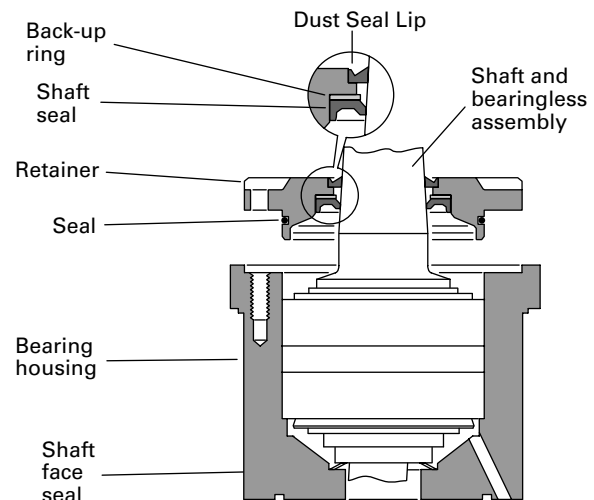

Figure 14
22. Use a small press, if available, to install dust seal in retainer. Metal side of dust seal must face toward retainer as shown in Figure 14. If a press isn't available, use a plastic or rubber hammer to tap dust seal in place.
23. Install 92,3 [3.64] I.D. seal, back-up ring and shaft seal in retainer. Flat or smooth side of shaft seal must face toward retainer as shown in Figure 14. Apply petroleum jelly to inside diameter of shaft seal (after installing seal).